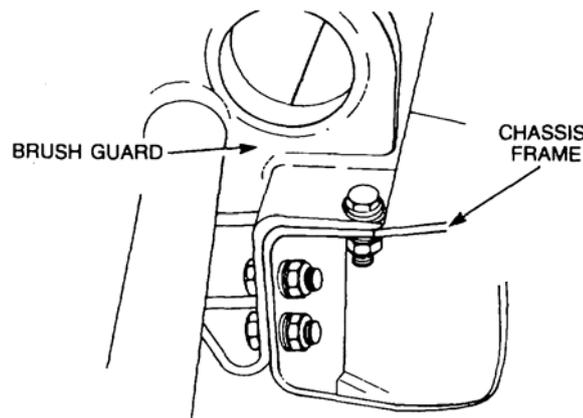

Figure 27 Bumper Brushguard Removal
- Slacken the twelve nuts, washers and bolts securing the bumper to the chassis frame (refer Figure 27).